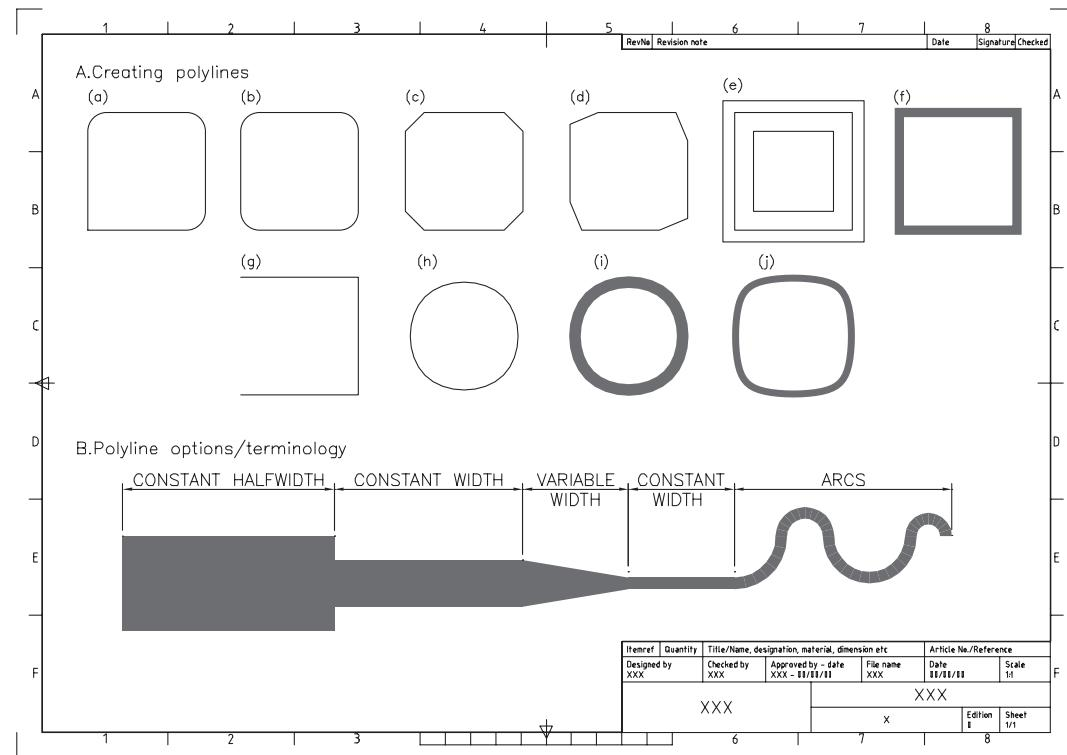

Figure 20.1 The polyline exercises.
1. Figure 20.1(a) is not a ‘closed’ polyline, so only three corners filleted
2. Figure 20.1(b) is a ‘closed’ polyline, so all four corners filleted
- c) The corner ‘not filleted’ in Figure 20.1(a) is the start point.